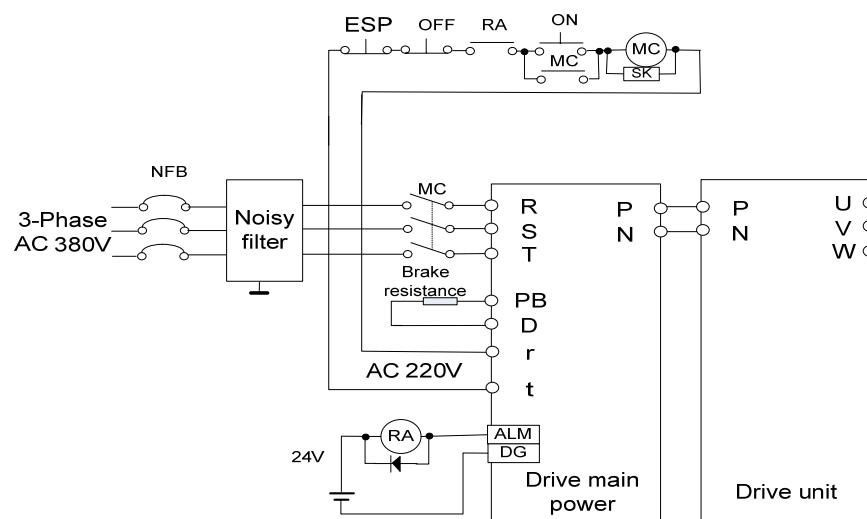

Fig. 7-1 Power module wiring
- It is necessary to connect an ESP circuit to ensure the power can be immediately stopped when fault occurs (Refer to the Fig. 7-1).
Refer to the Fig. 7-1 for the power connection, and connect the power based upon the following sequence.